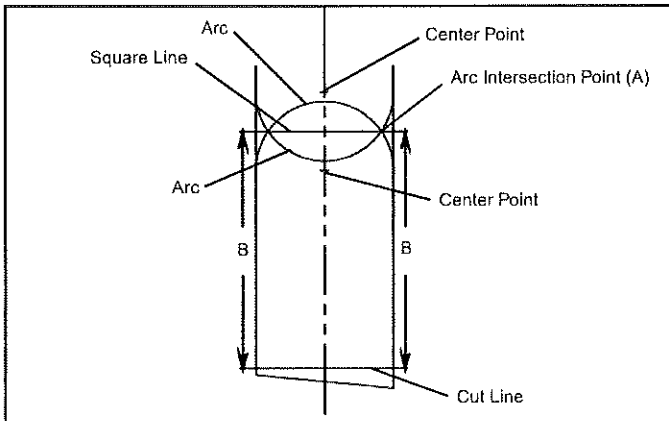

Figure 41
The molded edges on new belts are not always straight and parallel. Whenever practical, it is recommended to square ends of belt with the centerline of the belt. Mark the center point of the belt using a light colored chalk or pencil (**Figure 41**). Then draw an average centerline using these points as a guide. Locate two center points on the belt such that arcs will overlay. Draw the arcs on the belt. Using a steel straight edge, draw the square line through the two arc intersection points (A). Measure an equal distance (B) on both sides of belt from square line to the cut line.